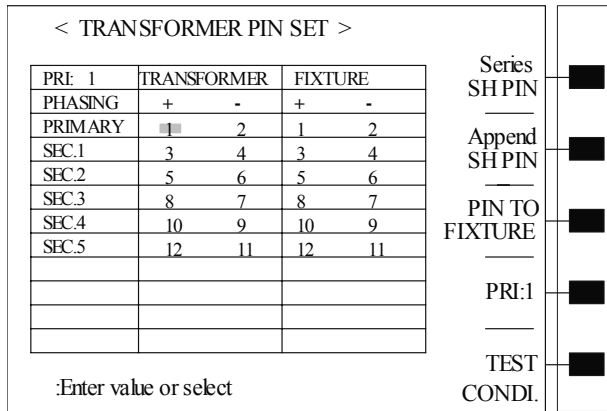

Figure 3-2-3-3
- Press[Exit]soft-key to return to <Transformer pin set>page layout, here, <Transformer pin set>page layout showed as figure3-2-3-3: